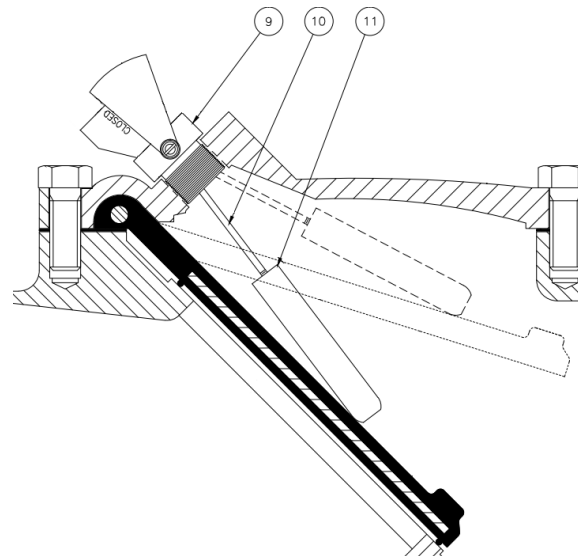

Figure 2
Relieve pressure and drain the pipeline. Refer to figure 2 on page 2. Remove the cover bolts (4), pry cover (2) loose and lift off valve body. Remove flexible disc (3) and inspect for cracks, tears or damage in rubber sealing surface. Inspect seating surface in body for damage. Clean and inspect parts. Replace worn parts as necessary.
The optional visual position indicator (Figure 2) provides a local indication of the flexible disc's position.